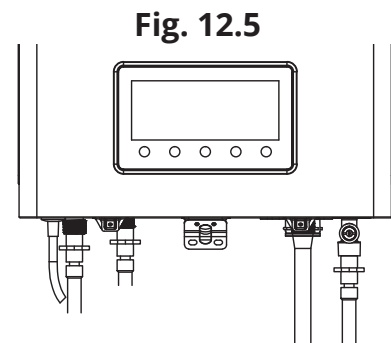

Fig. 12.5
- **If the neutralizer is mounted vertically,** ensure that the outlet is higher than the inlet. (Refer to Fig. 12.5)